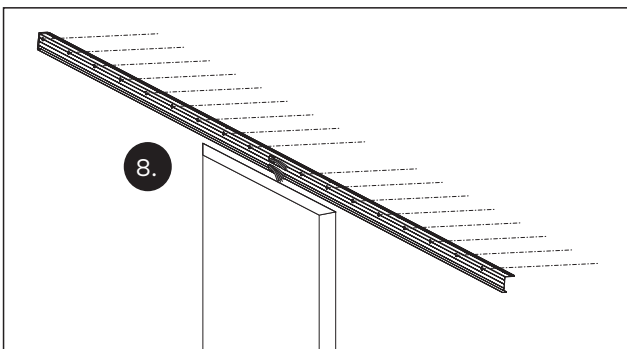

Fig. 11 Tightening the screws on the fixing bracket
- Tighten the screws on the fixing bracket (Fig. 11).